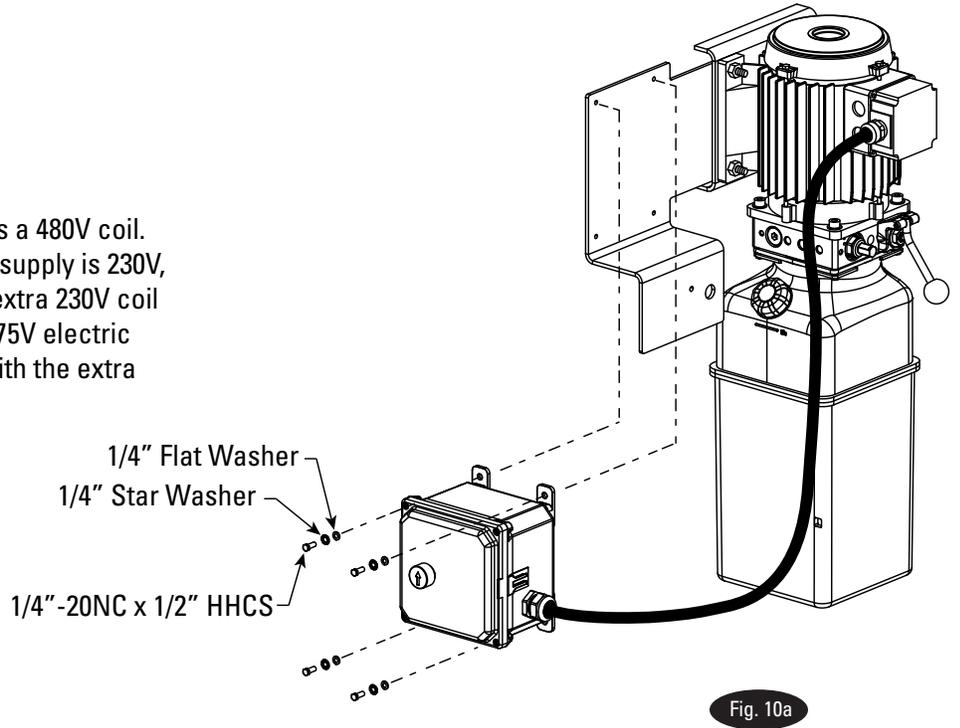

Fig. 10a
- A. Attach Control Box to Bracket using (4) 1/4" -20NC x 1/2" HHCS, (4) 1/4" Flat Washers, and (4) 1/4" Star Washers. Fig. 10a.